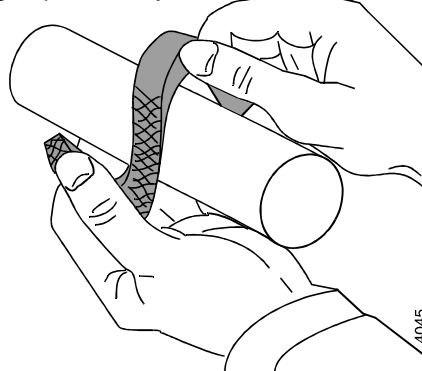

figure 26 Bending the packing rings open axially
- Bend the packing rings open axially, as shown in figure 26.